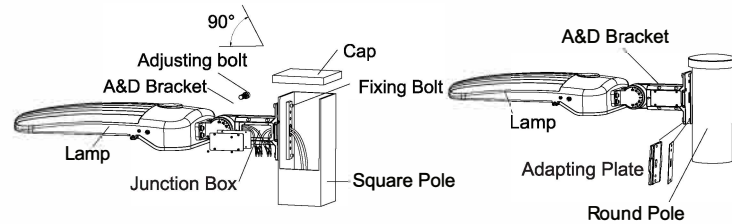

Figure 22
Step 2: Fix A&D bracket to square pole with bolt, open the cover of A&D bracket junction box, pull the wire into bracket junction box, connect the wire properly and cover the junction box. (Figure 22)
Notice: Adjustable angle is 0-90° (Figure 22)